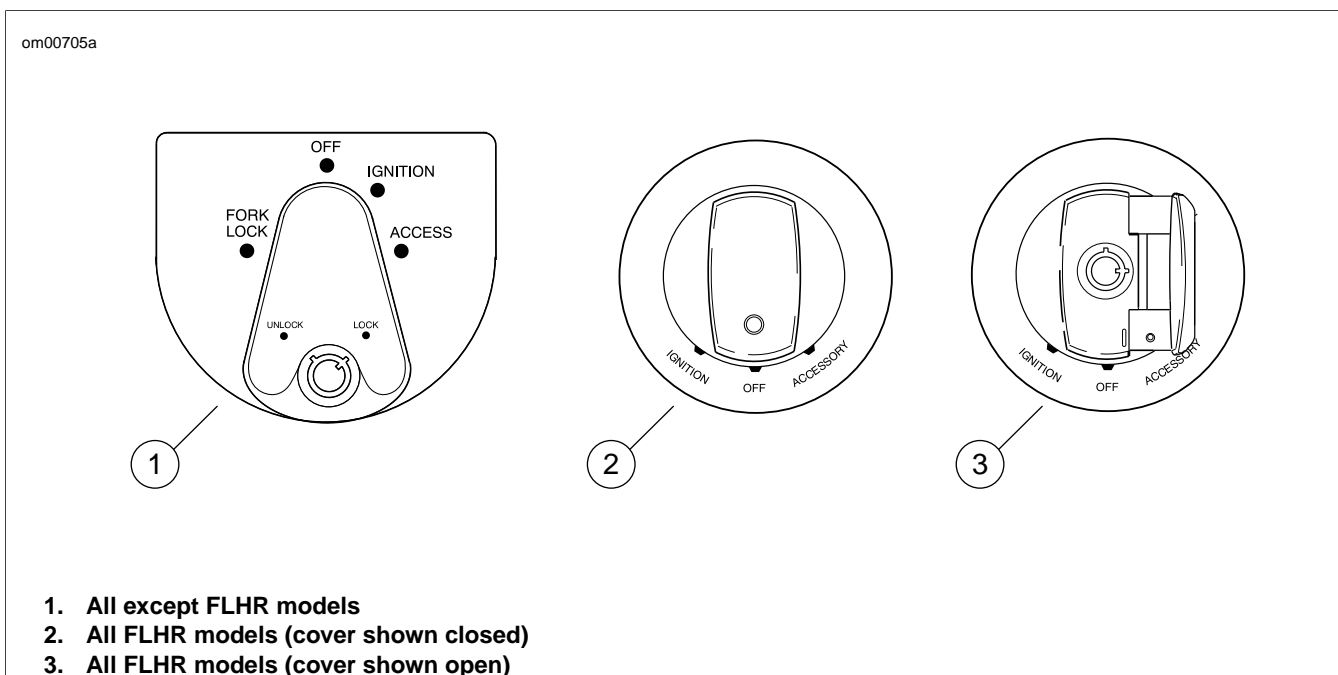

Figure E-5. Ignition Switch: Touring Models
- See Figure E-5. Key on means that the ignition switch is turned to IGNITION and the engine stop switch is set to RUN (although the engine is not running).